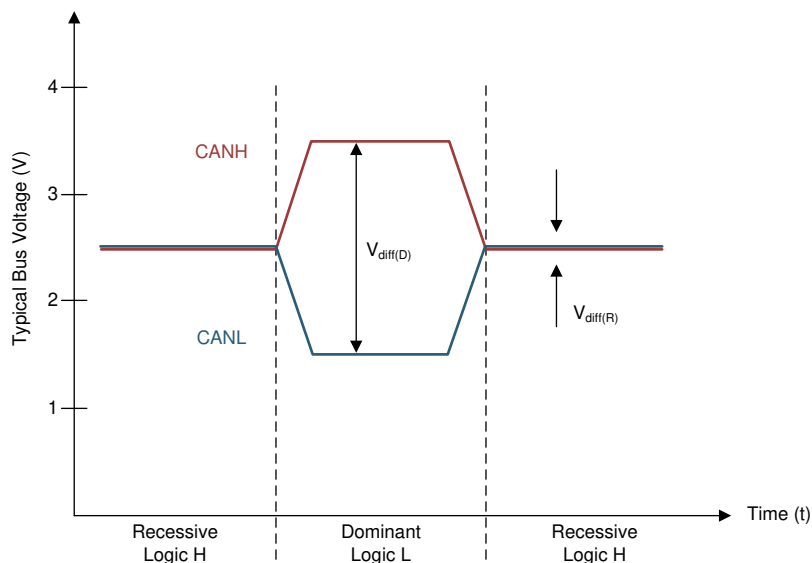
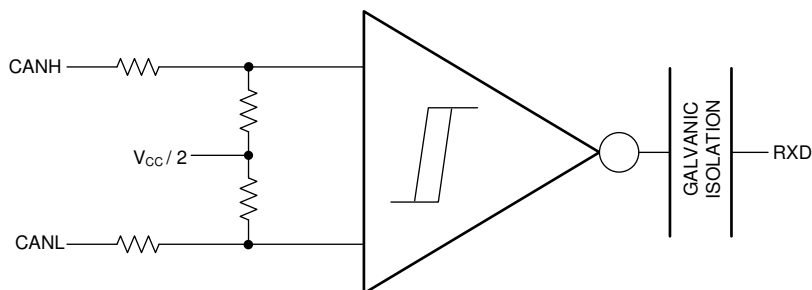

图 25. Bus States (Physical Bit Representation)
图 26. Simplified Recessive Common Mode Bias and Receiver
The CAN bus has two states during operation: *dominant* and *recessive*. A dominant bus state, equivalent to logic low, is when the bus is driven differentially by a driver. A recessive bus state is when the bus is biased to a common mode of $V_{CC} / 2$ through the high-resistance internal input resistors of the receiver, equivalent to a logic high. The host microprocessor of the CAN node uses the TXD pin to drive the bus and receives data from the bus on the RXD pin. See Figure 25 and Figure 26.
- (1) H = high level, L = low level, Z = common mode (recessive) bias to $V_{CC} / 2$. See 图 25 and 图 26 for bus state and common mode bias information.